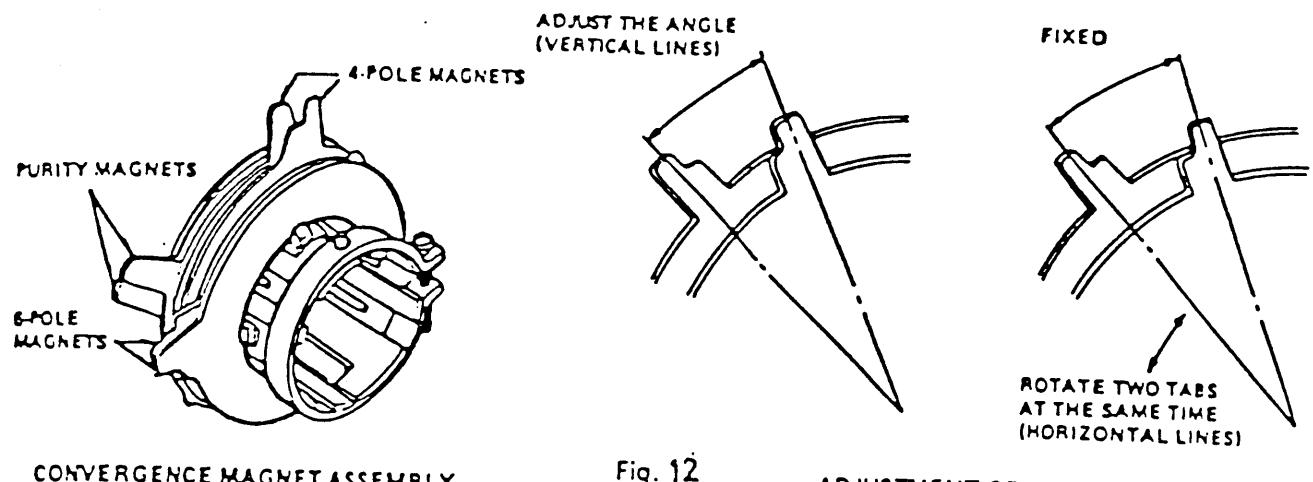
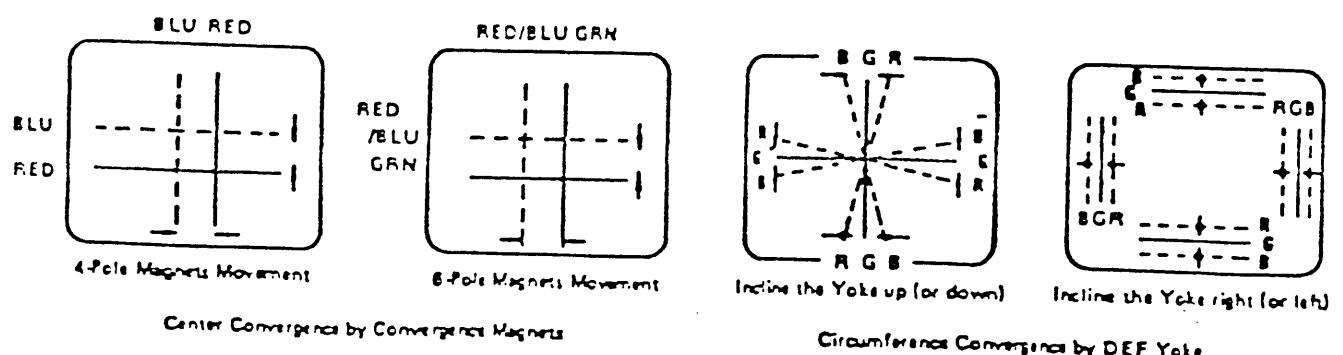

Fig. 12
Fig. 13 Dot Movement Pattern
- 6) Rotate and spread the tabs of the purity magnet as shown in Fig 13 around the neck of the picture tube until the green belt is in the center of the screen. At the same time, center the raster vertically.
- 3) Adjust two tabs of the 4 Pole Magnets to change the angle between them as shown in Fig 12 and superimpose red and blue vertical lines in the center area of the picture screen as shown in Fig 13.
- 4) Turn both tabs at the same time keeping the constant angle to superimpose red and blue horizontal lines at the center of screen as shown in Fig 13.
- 3) Tilt front of the deflection yoke up or down to obtain better convergence in circumference as shown in Fig 13 Push the mounted wedge into the space between picture tube and the yoke to hold the yoke temporarily.
- 5) Tilt front of the yoke right or left to obtain better convergence in circumference as shown in Fig 13.